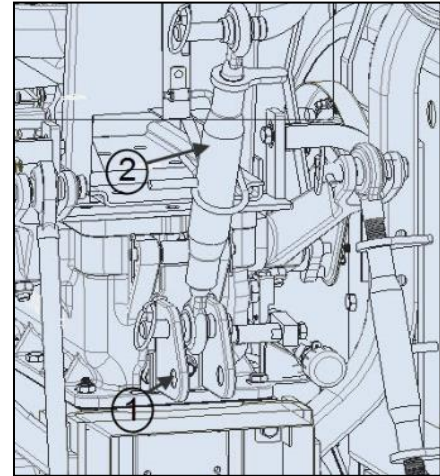

Fig. 4-16
4.35 TOP LINK OF THE MECHANICAL POWER LIFT 2 (Fig.4-16).